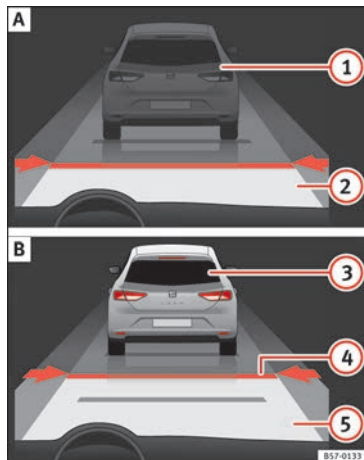
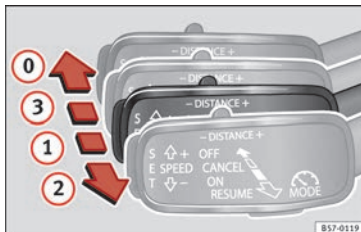
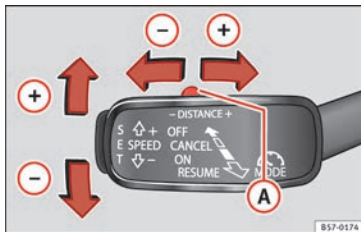

Fig. 195 On the instrument panel display: (A) ACC inactive (Standby). (B) ACC active.
Fig. 197 On the left of the steering column: third lever for operating the Adaptive Cruise Control.
Fig. 198 On the left of the steering column: third lever for operating the Adaptive Cruise Control.
Indications on the display »» **Fig. 195:**
programmed speed and ACC status will be displayed » **Fig. 195**.
Once you are driving, if you wish to set the current speed as the vehicle's cruise speed and activate the ACC, press the **SET** button » **Fig. 198**. If you wish to increase or reduce speed by intervals of 1 km/h (0.6 mph), move the lever to position ② » **Fig. 197** or press the **SET** button, respectively.
Any modification to the programmed speed will be shown on the bottom left part of the instrument panel display » **Fig. 195.**
To increase/reduce the distance level, press the rocker switch towards the left/right » **Fig. 198 A.**
- To activate the ACC, with the third lever in position **①** press the **SET** button or move the third lever of the ACC to position **②** » **Fig. 197.** At this point, the image of the ACC on the instrument panel display will switch to *Active* mode » **Fig. 195.**
To disconnect the ACC move the lever to the **①** position » **Fig. 197** (engaged). An **ACC deactivated** message appears and the function is totally deactivated.
If you do not wish to disconnect the ACC, just to switch it temporarily to inactive mode (Standby), move the third lever to position **③** » **Fig. 197** or press the brake pedal.